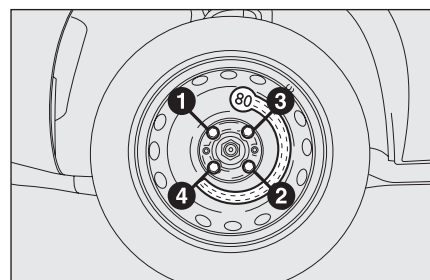

fig. 16
- ☐ using the wrench provided, fully tighten the bolts in the sequence shown in **fig. 16**.